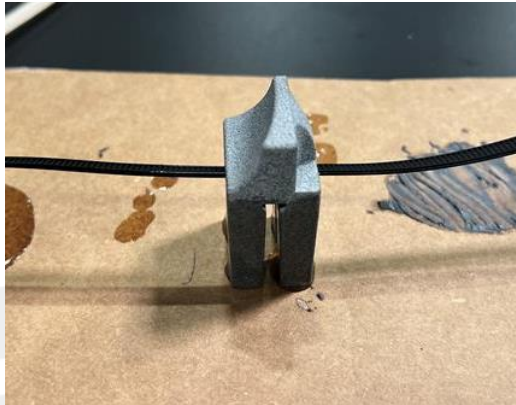

Figure 5 – Run the cable tie perpendicular to the concave feature at the top of the bracket
4. Slide the cable tie through the upper recess in the coolant hose bracket, as shown in Figure 5.